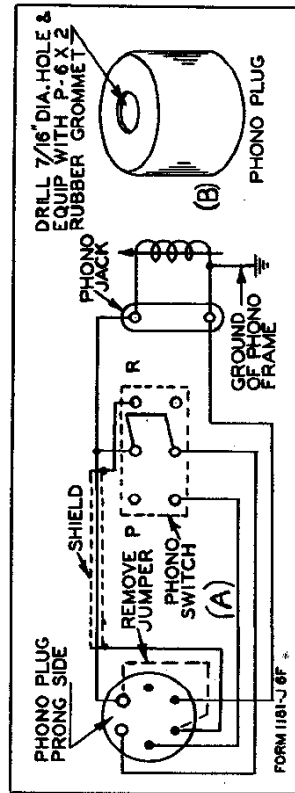

Fig. 13—Phonograph Connections
Two sets of accessories are supplied for phonograph connections for this model. One set is used when the phonograph is contained in a separate cabinet, and the other set is used when the phonograph and radio are in a combination cabinet. The electrical connections are the same in both cases and are illustrated in Fig. 13 (A). Parts required in either case are shown in the parts list in this manual.